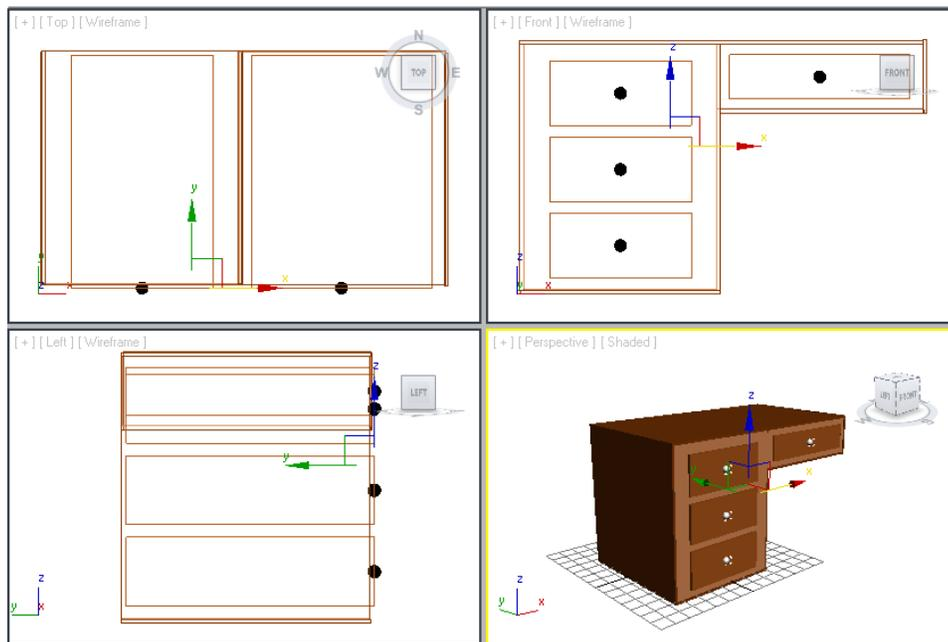

Figure 2-54 Alignment of knobs in all viewports
5. Activate the Front viewport by middle-clicking in it and then create three copies of *knob001* by using the **Clone Options** dialog box as described earlier. The newly created copies are automatically named as *knob002*, *knob003*, and *knob004*. Next, align them in all viewports, as shown in Figure 2-54.